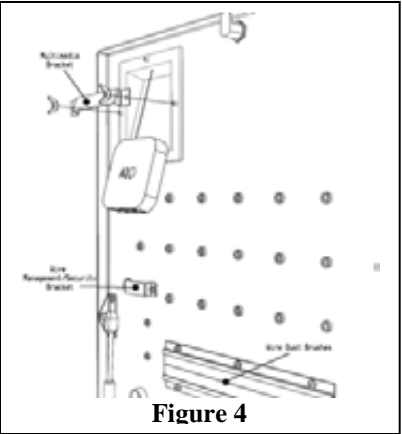

Figure 4
Step 5 - (Optional) Attach any multimedia devices such as the AppleTV™ and Roku™ with the bracket provided shown in Figure 4. A piece of foam (provided) should be placed between the multimedia device and the bracket to provide a secure fit and prevent any damage to the device. Cable(s) can be run through the wire management/security bracket and attached to the projector by running it out through the dust brush.